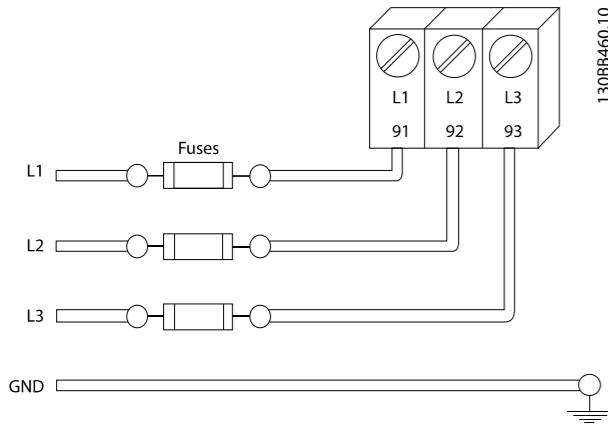

Figure 2.4 Frequency Converter Fuses
fusing is required to provide this protection, see *Figure 2.4*. If not factory supplied, fuses must be provided by the installer as part of installation. See maximum fuse ratings in *10.3.1 Protection*.
- All frequency converters must be provided with short-circuit and over-current protection. Input fusing is required to provide this protection, see Figure 2.4. If not factory supplied, fuses must be provided by the installer as part of installation. See maximum fuse ratings in 10.3.1 Protection.